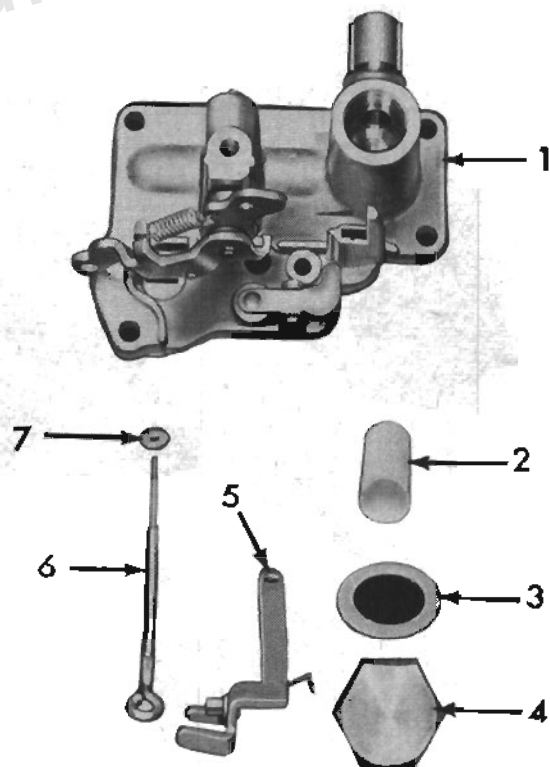

FIG. 30
Fig. 30) with metering rod spring and the metering rod (6) and disc (7) from the bowl cover (1). Remove the disc from the metering rod, unhook the metering spring, and remove the rod from the vacuum piston link. Then remove the strainer nut (4), gasket (3), and strainer (2).